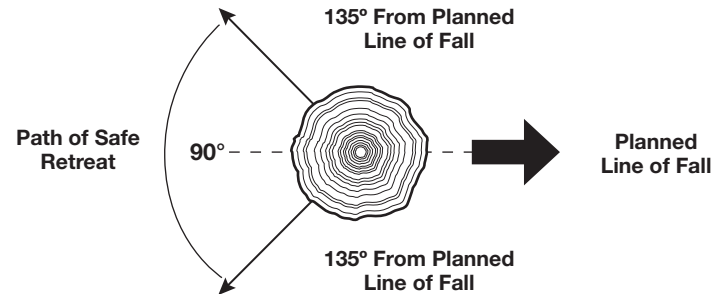

Fig. 15
- Determine a safe and expedient escape route. Clear the area around the tree and make sure there are no obstructions blocking the escape route. Establish a 90° corridor of escape, approximately 135° from the line of fall (Fig. 15).